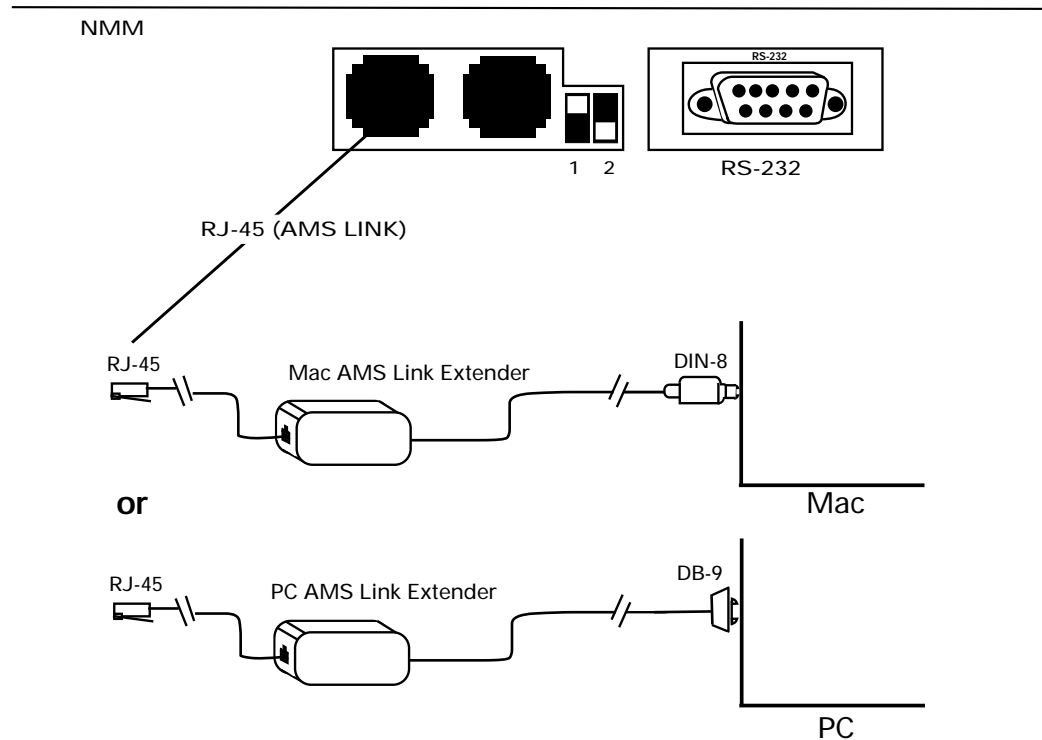

Figure 5 Using an AMS Link port to connect to a Management Station (Macintosh or PC)
**1** Connect one end of the AMS Link Extender to a PC or Macintosh and the other end to an AMS Link connector port. Figure 5 shows how to make this connection.